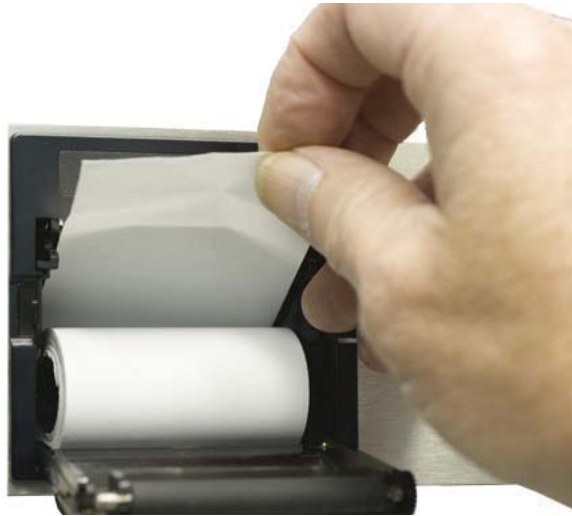

Figure 3-12 Placing Paper Into the Printer
2. Unroll about two inches of paper and place the roll into the printer as shown in Figure 3-12.